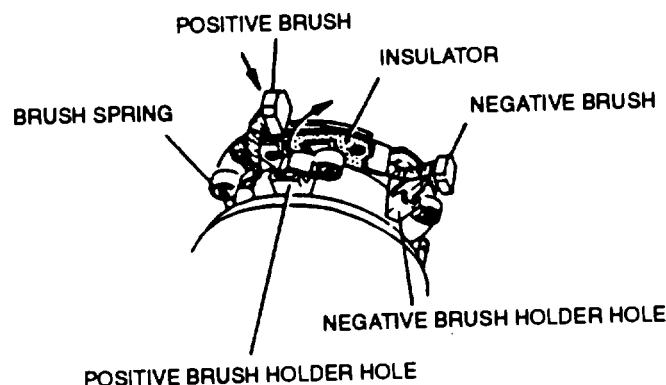

FIGURE 3-39. Installing Brushes
- c. Apply general purpose grease (630AA) to retainer (20), rollers (21), overrunning clutch (17), steel ball (18), spring (23), and bearings (34 and 35).
- d. Install washer (22) and spring (23) in magnetic switch assembly (24).
- e. Install five rollers (21), retainer (20), and starter pinion (19) in housing (16).
- f. Place steel ball (18) in overrunning clutch (17) and install both in housing (16).
- g. Position assembled housing (16) on magnetic switch assembly and secure with three screws (15). Tighten screws 5.1 to 8.7 ft-lbs (6.9 to 11.8 Nm).
- h. Install armature (14) in magnetic switch assembly (24).
- i. Position brush holder (13). Lift springs and install brushes, refer to FIGURE 3-39. Ensure negative brushes (connected to brush holder) are installed in negative holes (not insulated) and positive brushes (connected to yoke) are installed in positive holes (separated from plate with insulator). Ensure positive brush leads are not grounded.